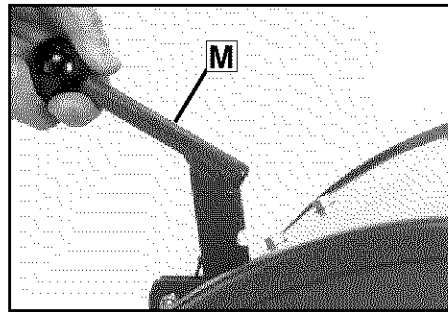

Figure 2-10: Put lever in second notch.
2. Pull the Depth Regulator Lever (M, Figure 2-10) straight back and then slide it to the second notch from the top. If the lever does not move freely, lift the tine hood flap and look for a plastic tie securing the lever. Cut and remove the tie.
1. With the unit on level ground, pull the Depth Regulator Lever (M, Figure 2-10) back and then move it up or down until the engine is level.